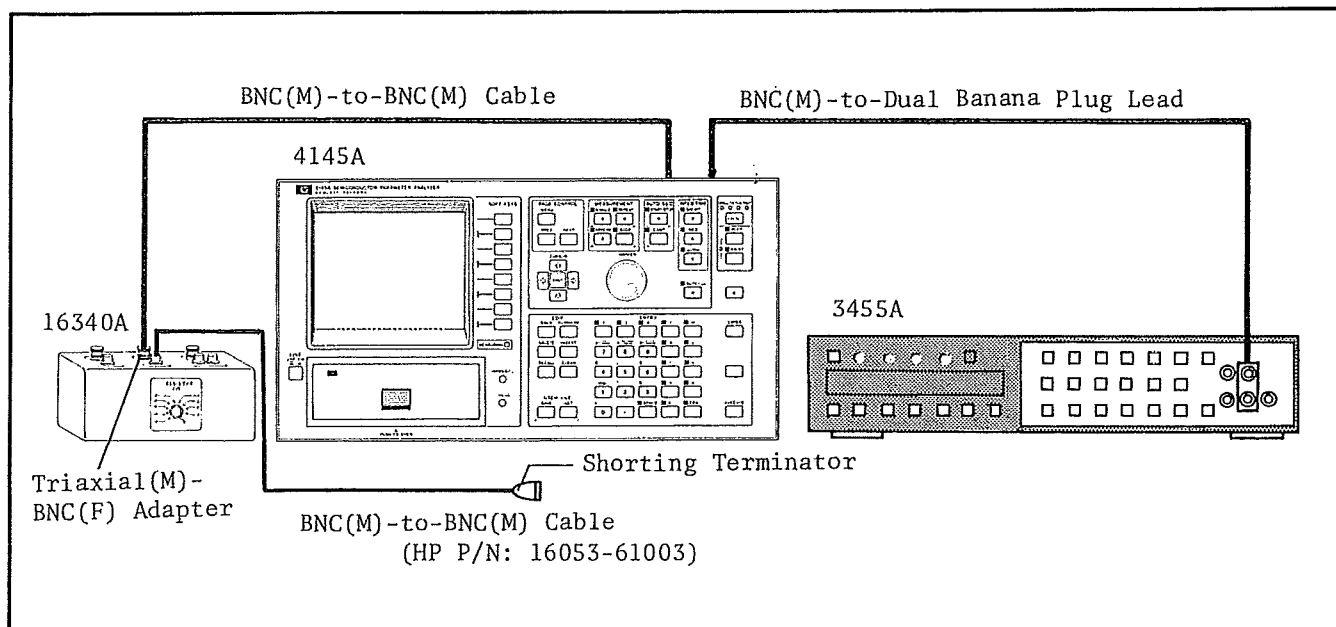

Figure 4-10. VS Accuracy Test Setup.
2. Terminate the BNC cable with the shorting terminator. See Figure 4-10.
3. Connect the BNC T type adapter to VS channel 1 (Vs1), then connect the 3455A and the 16340A to the VS channel 1 (Vs1) as shown in Figure 4-10.